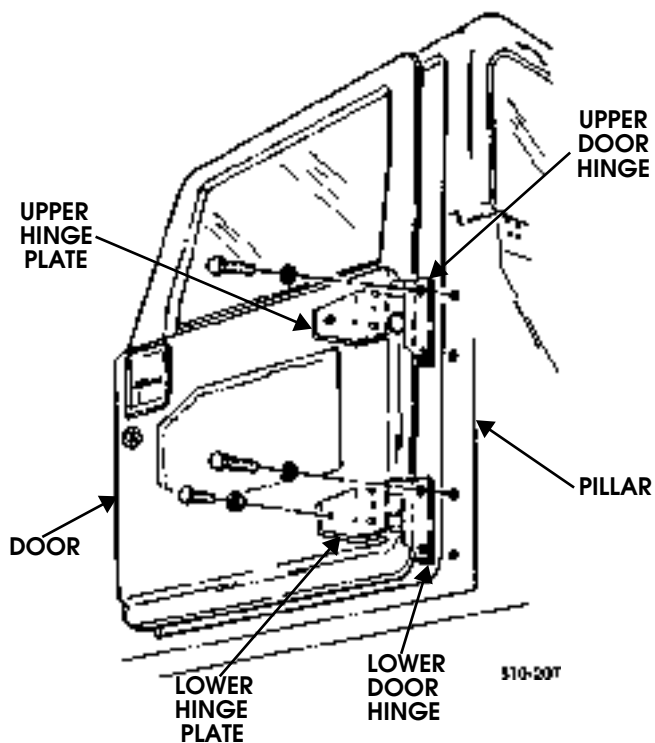

Figure 10-60: Door Mounting
4. Remove twelve-point bolts and washers securing upper door hinge to pillar (Figure 10-60).
1. Remove twelve-point bolts, washers, and upper and lower hinge plates from door (Figure 10-60).